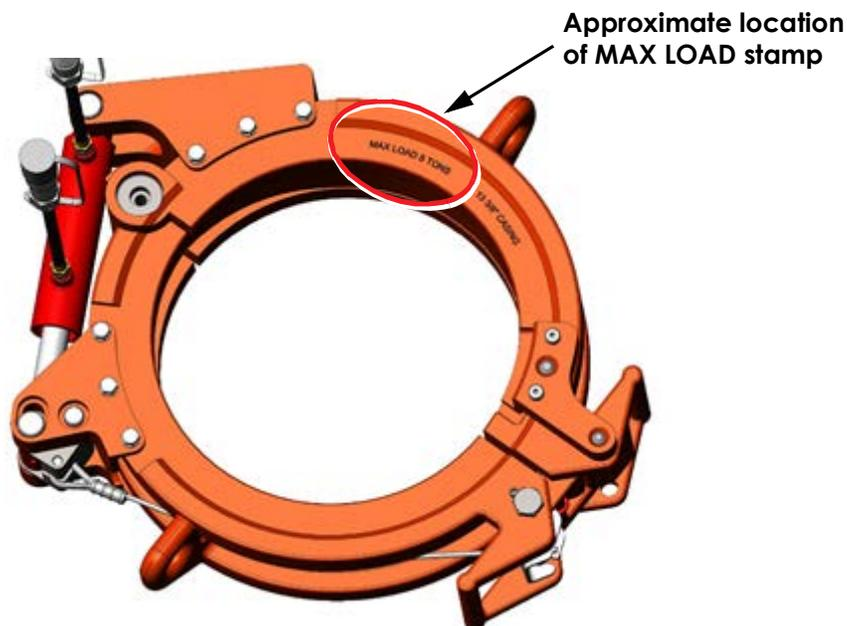

Figure 3: Location of MAX LOAD stamp on elevator
1. Locate the MAX LOAD stamped on the elevator. Figure 3 shows the approximate location where the MAX LOAD would be stamped.